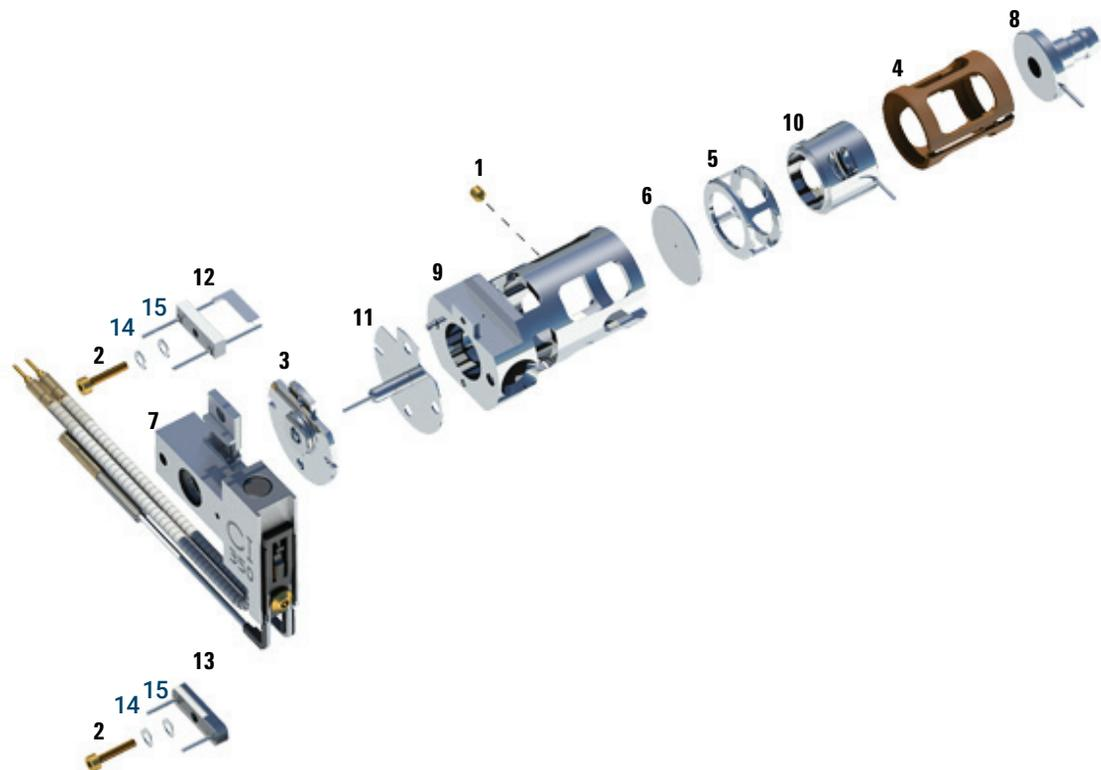

Figure 87. Disassembling the CI source
Refer to the exploded parts view and the CI source parts list while using this procedure. (See **Figure 87** and **Table 24** on page 265.)
- 3 Separate the source heater assembly from the source body. The source heater assembly includes the source heater, repeller, and related parts. (See **Figure 87** and **Table 24** on page 265.)
- 4 Disassemble the repeller assembly by removing the ceramic insulator from the repeller. (See **Figure 87** on page 265.)
- 6 Pull the lenses out of the source body and separate the lens insulator, ion focus lens, drawout cylinder, drawout lens, and entrance lens. (See **Figure 87** on page 265.)
Table 24 Parts list for CI source (Figure 87)
Table 24 Parts list for CI source (Figure 87) (continued)